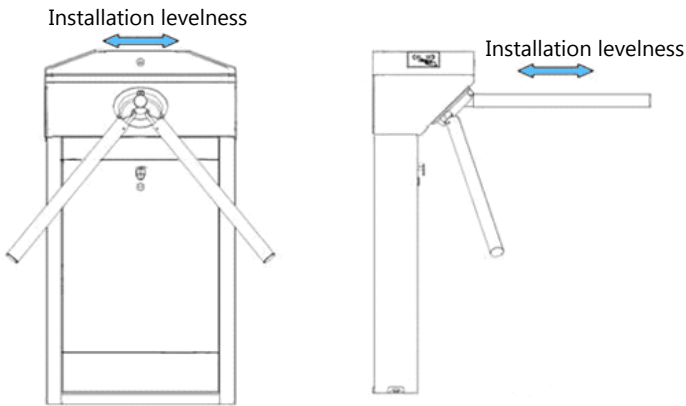

Figure 3-5
- Put the turnstile on the mounting plate and tighten the screws. Apply screw securing glue before use and put gaskets on the screws to adjust the direction of the turnstile. If the tripod turnstile is not level, you can place gaskets to adjust, as shown in figure 3-5.